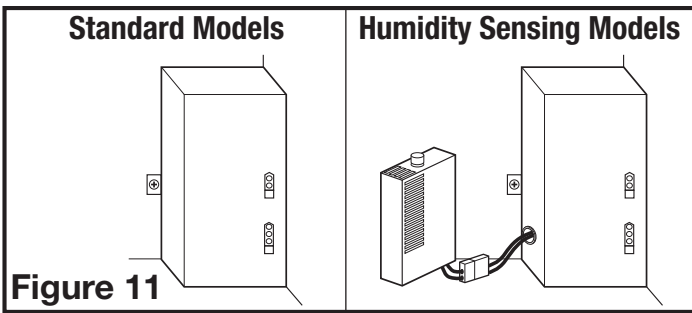

Figure 11
- 3a. **STANDARD AND HUMIDITY SENSING MODELS:** Plug the fan's 2 pin and 3 pin quick connect motor cords into the corresponding receptacle located on the wire compartment cover. These cords will only fit one way into the receptacles (Figure 11).